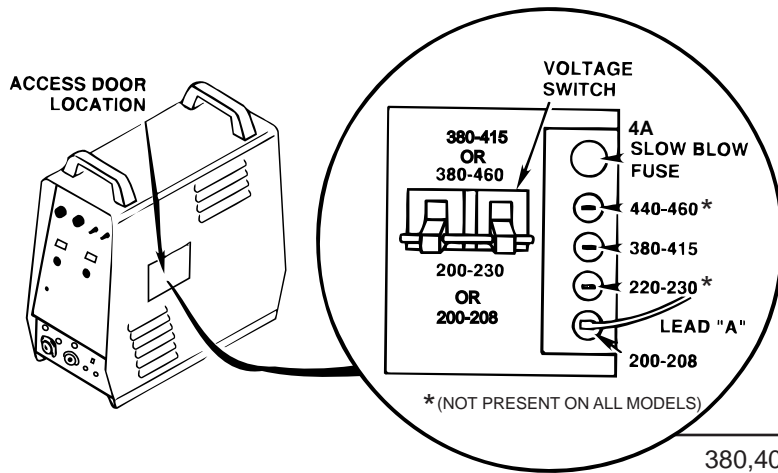

FIGURE A.2 RECONNECT PANEL INPUT VOLTAGE RECONNECT PROCEDURE
1. For Connections to 440 or 460 VAC **verify** the internal configurations to the procedures shown below and refer to Figure A.2.
2. For Connections to 200,208,220,230,380,400 or 415 VAC follow the procedure shown below and refer to figure A.2.